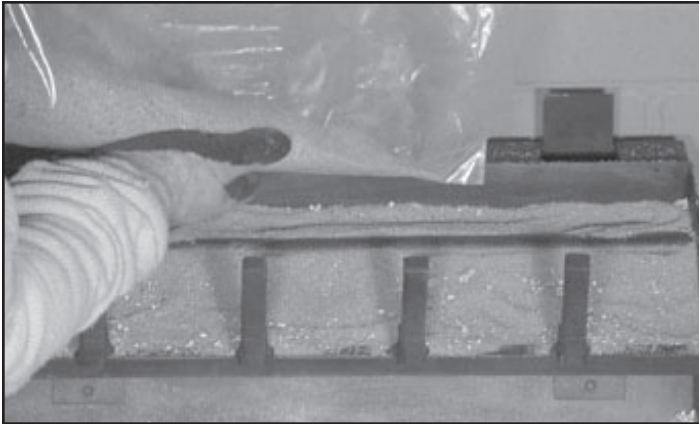

Figure 3 Sand
- Pour sand into the burner pans to the point where the burner pipe is covered. See Figure 3. Level the sand from right to left to ensure an even flame pattern. At this point the pan should be half full.